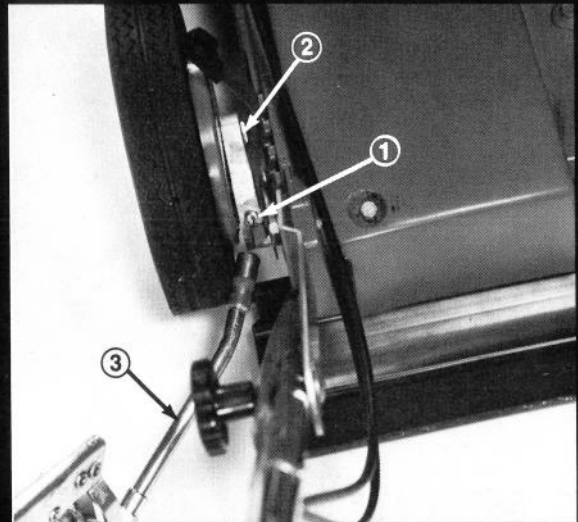

Figure 24
1. Set height-of-cut to center height-setting (C).
2. Install grease gun onto fitting and apply grease (Fig. 24). (Approximately 2-3 pumps.)